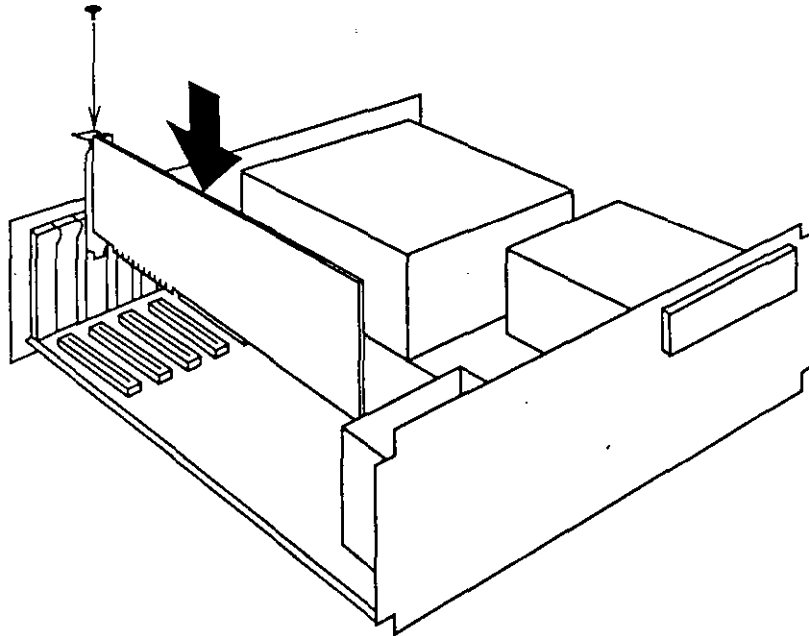

Figure 2.18
4. Insert the appropriate Novell Ethernet board into the slot, pressing it firmly into the expansion slot connector. (See Figure 2.18.)